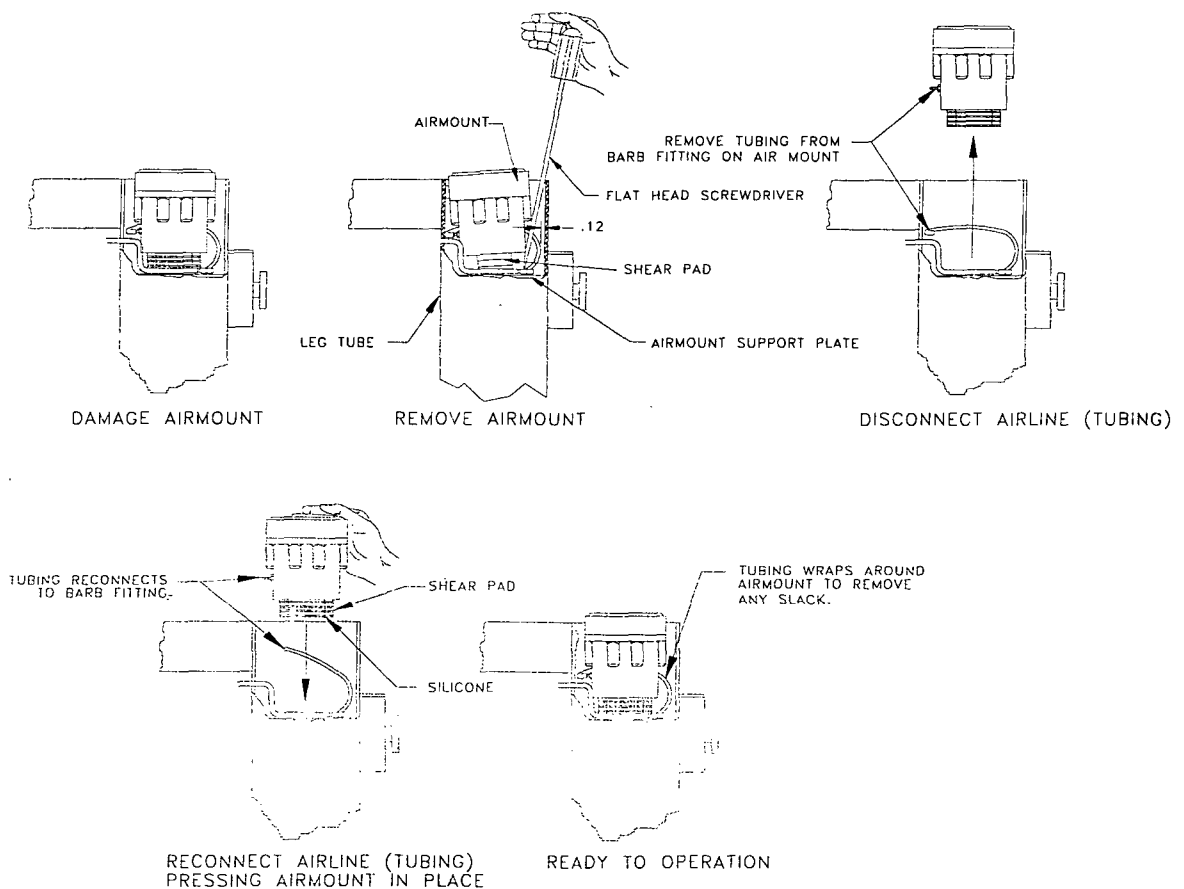

Fig. 13 9101/9102 and 9211 Replacement Airmount
2. Remove airmount by using the long flat head screwdriver by gently prying from all sides of the airmount (as shown on Fig. 13).